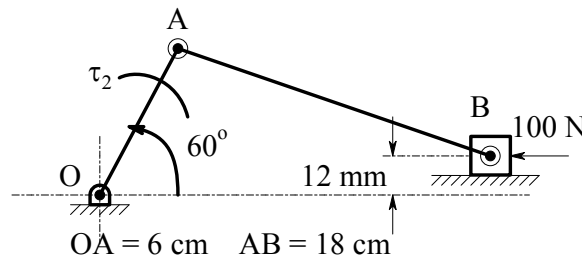

Fig. 1
- 1 The applied load on the piston of an offset slider-crank linkage shown in Fig.1 is 100 N, and the coefficient of friction between the slider and the guide is 0.27, using graphical method determine the magnitude and sense of torque  $\tau_2$  applied on OA for the static equilibrium of the linkage. (10)